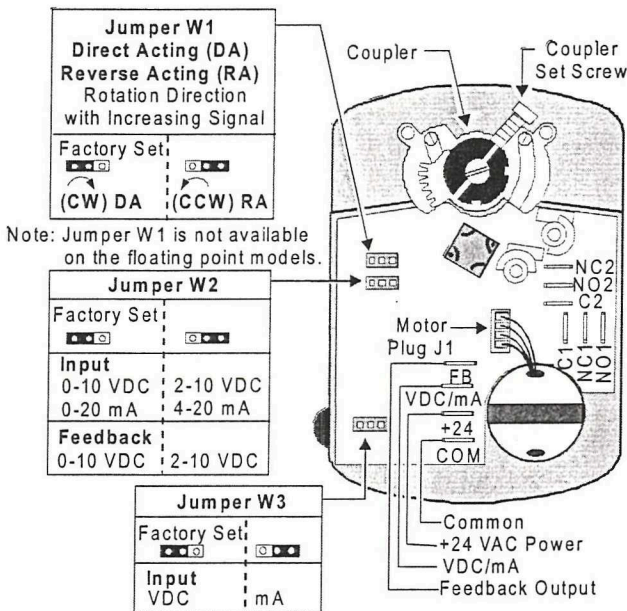

Figure 8: Calibrating M9104-GGx-2 Models
The VDC/mA terminal is the control signal input. For voltage input, Jumper W3 must be in the VDC position. For current input, Jumper W3 must be in the mA position. The FB Terminal is the feedback output. (See Figure 8.)
The M9104-GGx-2 actuators are factory set for Direct Acting (DA). To set the actuator for Reverse Acting (RA), loosen the cover screw, and remove the actuator cover. Remove Jumper W1, and place it in the RA position. (See Figure 8.)